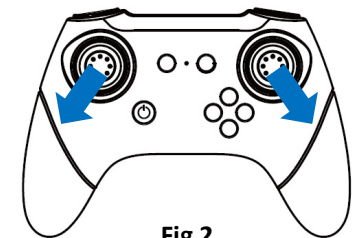

Fig 2
- Place the Drone on a flat surface and hold the left and right control sticks outward and downward (left stick 7 o'clock and right stick 5 o'clock positions) for 3 seconds. The indicator on the Drone will change from a solid to quick flashing light. When the LED light on the Drone turns solid again, this means that the Drone has been calibrated successfully. (Fig 2).